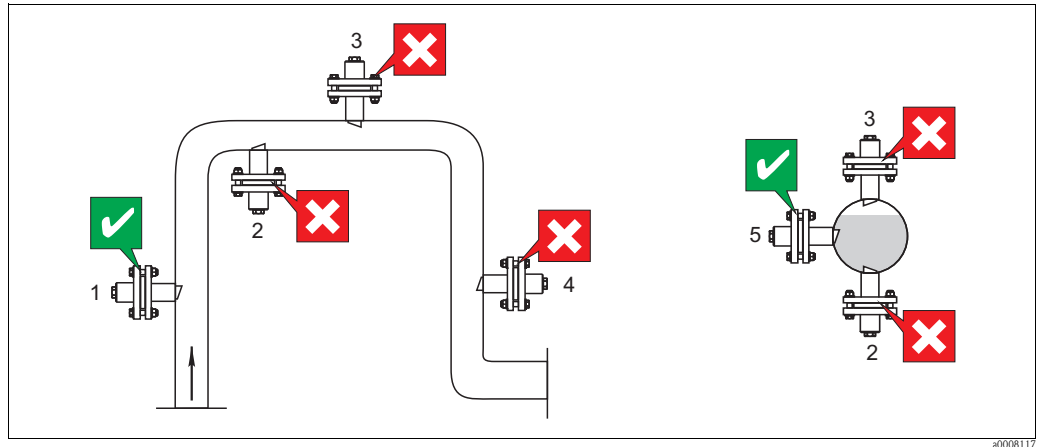

Fig. 6: Orientation and installation positions (with adapter CUA120-A/B resp. retractable assembly CUA451)
- The best installation location is in the ascending pipe (→ Fig. 6, it. 1). Installation is also possible in the horizontal pipe (it. 5).